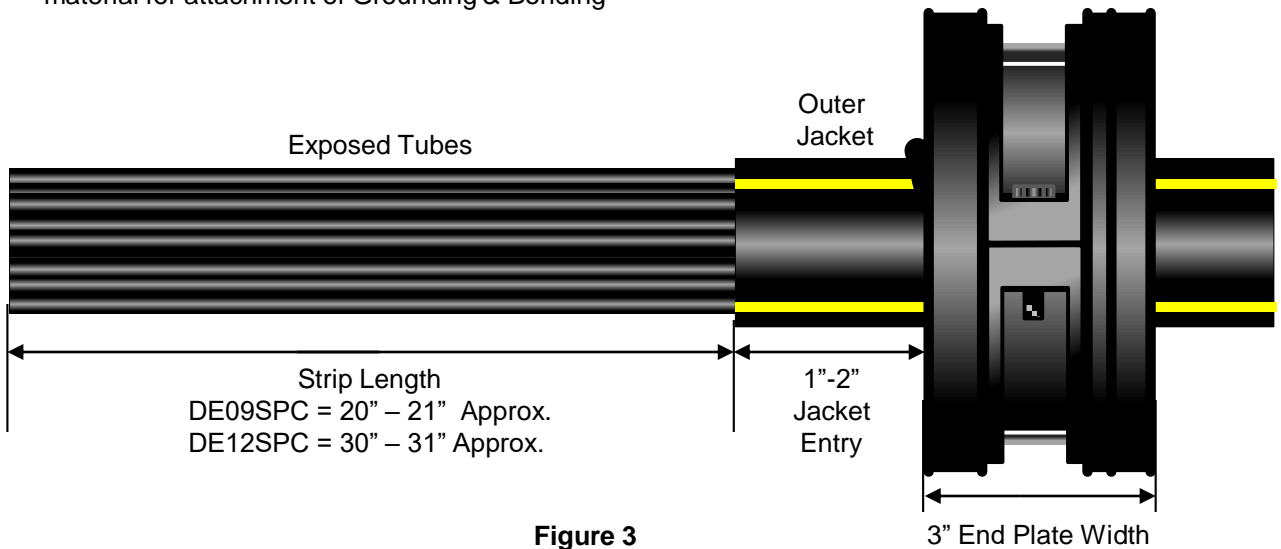

Figure 3
6.6.1 If you are installing dielectric tube cables, refer to **Fig.3**. Allow for about 1" - 2" of outer jacket beyond the End Plate inside the Splice Case and mark jacket.